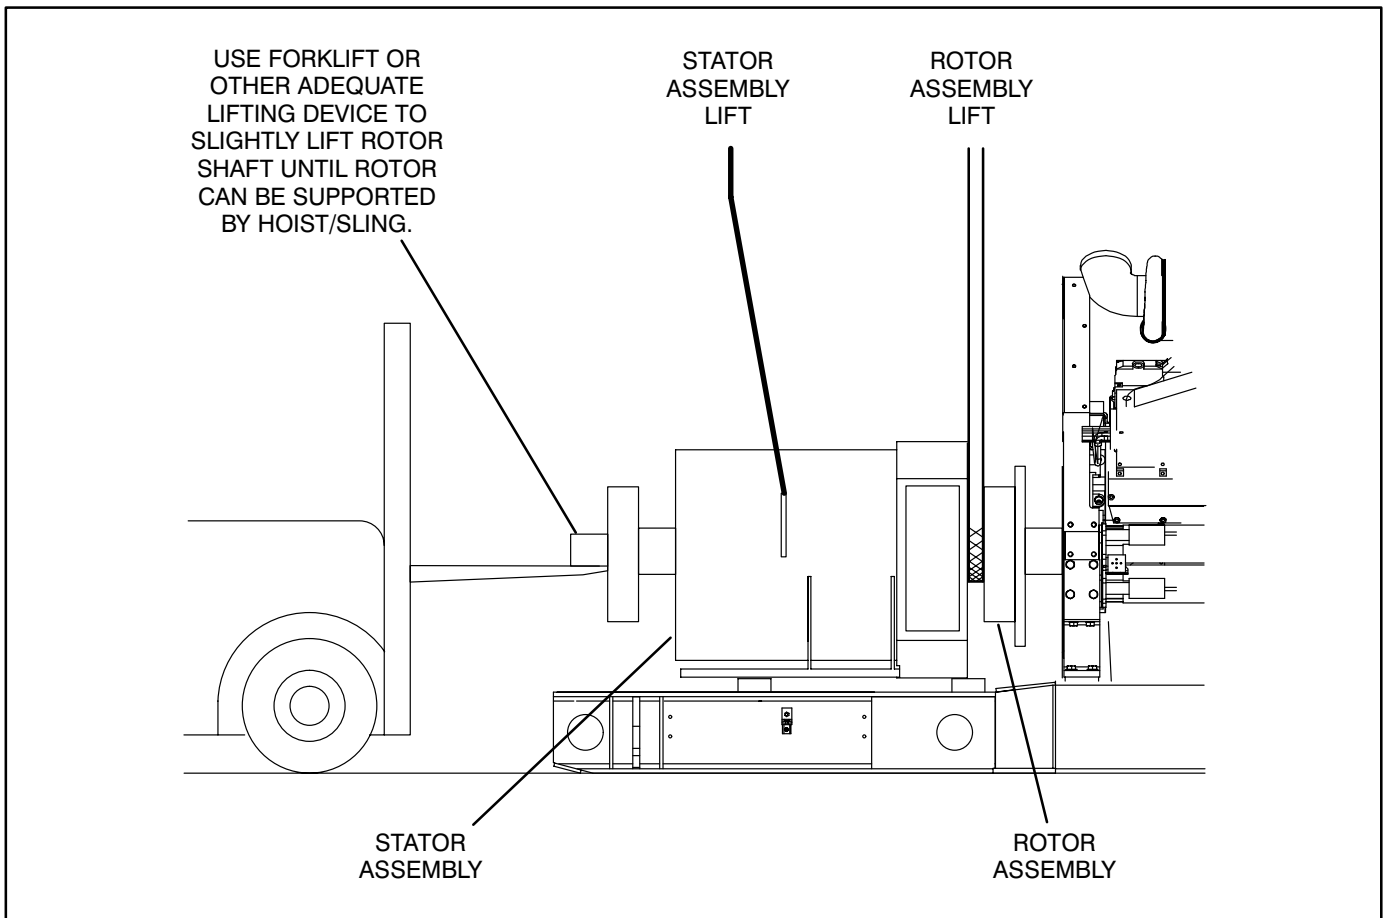

FIGURE 6-13. REMOVING P7 STATOR ASSEMBLY
- Align the holes of the engine adaptor endbracket with the holes in the flywheel housing and install the capscrews and lock washers. Refer to Figure 6-13 and Table 6-3 for torque specifications.
- Secure the rotor assembly to the flywheel. Refer to Figure 6-13 and Table 6-3 for torque specifications.